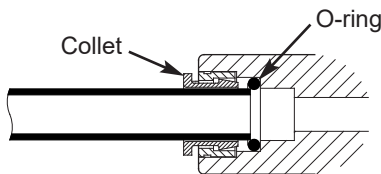

FIG. 12
**NOTE:** A common mistake is to stop pushing the tube when it hits the internal metal collar or o-ring (See Fig. 12). Make sure to push past these, until at least 5/8" (16 mm) of tube is inserted.